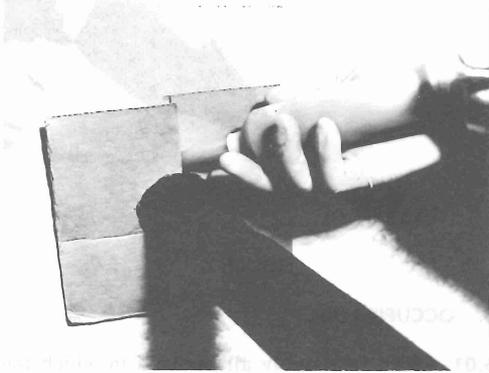

FIGURE 9
6.04 Mix a cartridge of compound. Inject the compound through the slit in the dam and into the conduit. (see Figure 9)